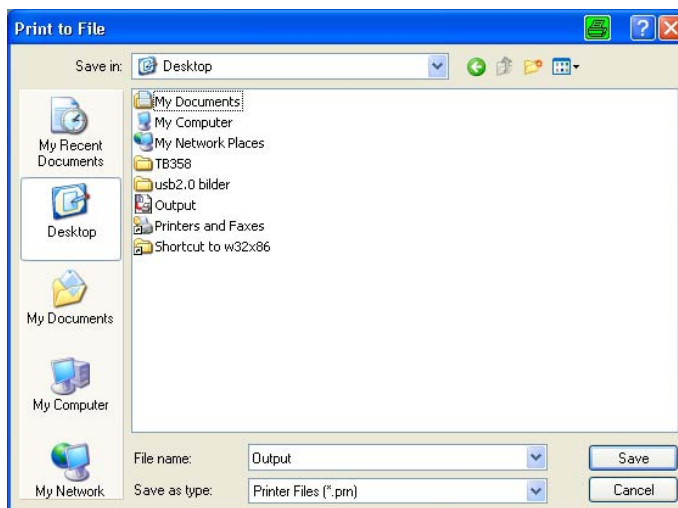

Figure 63: Print to file dialog
- Select a file name and a location to save the print file. Use the default file type “.prn” (printable file) (see Figure 63).